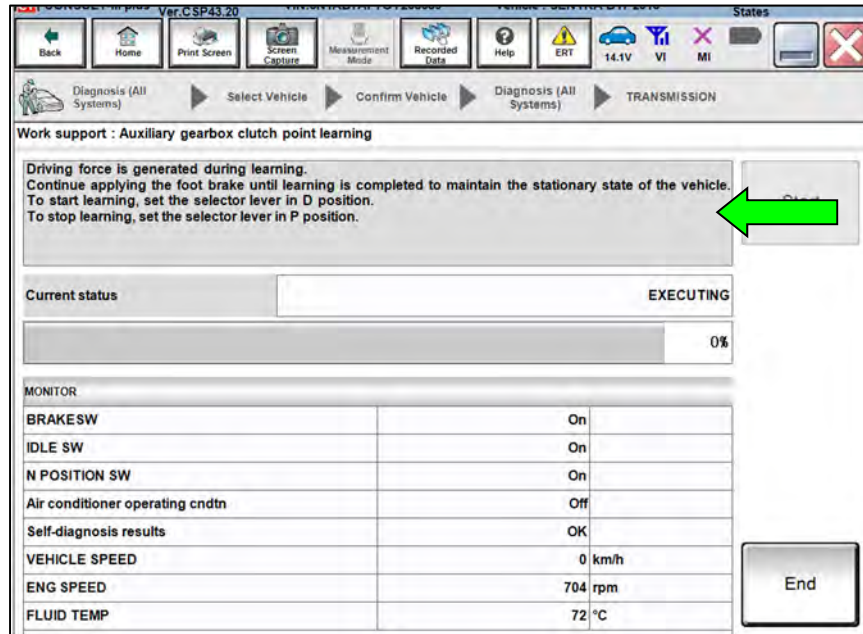

Figure 282
- Figure 282 will be displayed after shifting into **D** position.